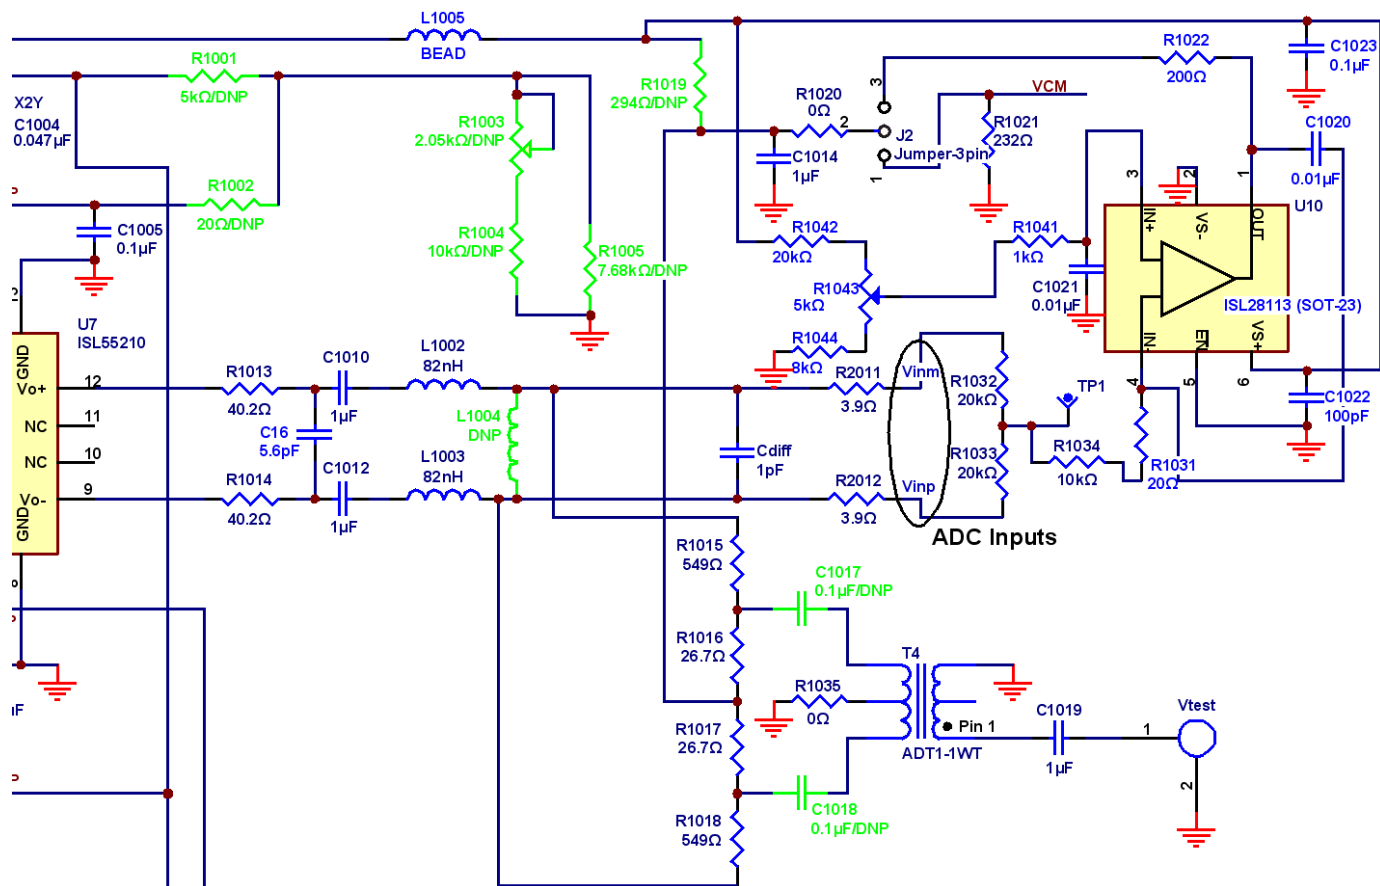
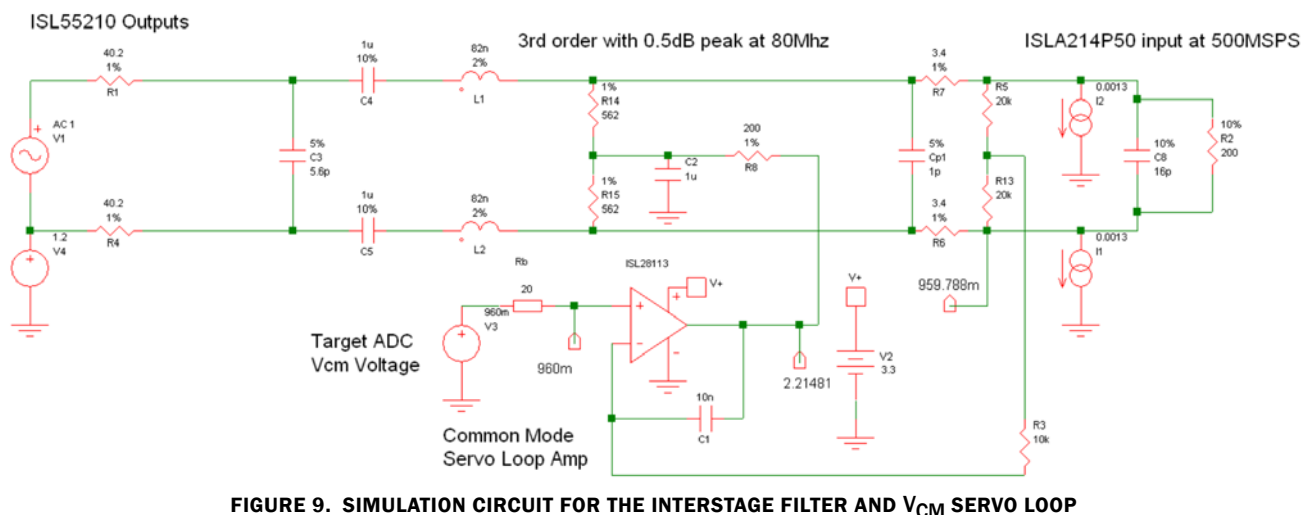
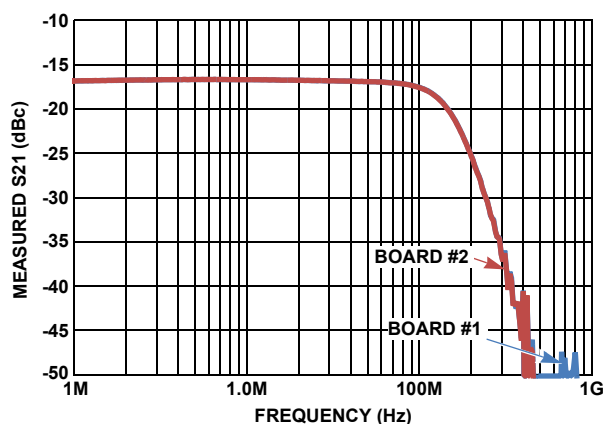

FIGURE 8. OUTPUT INTERFACE FROM ISL55210 TO THE ISLA214P50 DIFFERENTIAL INPUTS
FIGURE 9. SIMULATION CIRCUIT FOR THE INTERSTAGE FILTER AND  $V_{CM}$  SERVO LOOP
FIGURE 11. OVERALL FREQUENCY RESPONSE SHAPE FROM THE BOARD INPUT TO THE ADC
The signal path from the ISL55210 to the ADC is AC coupled, allowing the amplifier and ADC to operate at the common-mode voltage that optimize each device's performance. As delivered, the differential output of the ISL55210 operate with a common mode voltage that is left to default to the internal 1.2V value. This can be adjusted to different set point via an optional path. The interstage passive circuit provides an AC coupled, 3rd order low pass filter. Built into this filter are an ADC common mode voltage servo loop which controls the common-mode DC voltage delivered to the ADC input pins and a wideband passive sense path going differential to single ended to directly measure the response shape to the ADC inputs. The circuit as delivered is shown in Figure 8.
The differential signal at the outputs of the ISL55210 proceeds from left to right in Figure 8 through the 40.2Ω resistors to a differential 5.6pF capacitor and then into the 1μF DC blocking capacitors. Those level shift the DC operating voltage from the FDA outputs to the required common mode voltage at the ADC inputs. The rest of the passive filter from there is pair of series 82nH inductors then into a parallel RC network comprised of the 4 resistor network feeding the differential to single ended sense path at the output of T4, an external 1pF differential capacitor and then the internal RC elements of the ADC. A final circuit element senses the average common mode voltage at the ADC inputs using the 2-20kΩ resistors and feeds that into a low frequency servo loop amplifier using the ISL28113 which then feeds a DC control voltage to the center of the 4-resistor string that acts to control the ADC common mode operating voltage to the reference voltage applied at the ISL28113  $V_+$  input.
Critical to understanding the response shape are the estimated internal ADC elements as shown in the simulation circuit for this interface in Figure 9 (this element numbering here does not follow the build schematic of Figure 8)
This slight peaking is intended to equalize some of the rolloff up to the FDA outputs but then bandlimit quickly above 100MHz. The  $V_{TEST}$  of Figure 8 provides an easy means to verify the frequency response shape from the board input to the ADC. The 4 resistor network feeding T4 in Figure 8 shows a about a 25Ω source to each leg of the 1:1 transformer while its total impedance across the signal path is part of the filter design. This path will have considerable insertion loss ( $\approx -31.8$ dB) but an accurate replica of the response shape as shown for 2 boards measured in Figure 11.
Clearly the overall response shape is doing a good job of providing approximately 15dB gain from board edge with <1dB rolloff to 100MHz. It is important for distortion reasons to stay away from the rolloff regions of the input step up transformer. The intended minimum frequency in this application is 100kHz, well above the 40kHz -1dB measured on the ADT4-6T while the maximum intended frequency is 100MHz which is also well below the measured 180MHz -1dB frequency on the ADT4-6T. The interstage filter bandlimits the broadband noise out of the ISL55210 to reduce SNR degradation through the ADC while also providing a bit of HD2 and HD3 attenuation from the FDA outputs to the ADC inputs. For instance, a single tone 80MHz at the FDA output pins will have an HD2 at 160MHz and an HD3 at 240MHz. The response shape of Figure 11 suggests that HD2 term will get about 4dB attenuation while the HD3 term will get 13dB attenuation to the ADC inputs.
2. The ADC input resistance will increase slightly. The 200 $\Omega$  internal value shown in the simulation circuit of Figure 9 is a combination of an extrinsic 300 $\Omega$  element and the effective resistance of a sampling cap. That impedance is approximately  $1/(F_s * 3.3pF)$ . As the clock rate decreases, this impedance will increase moving the apparent input resistance up. By 200MSPS the total ADC internal resistance is  $\approx$ 250 $\Omega$ . This shift will slightly change the response shape of the interstage filter.